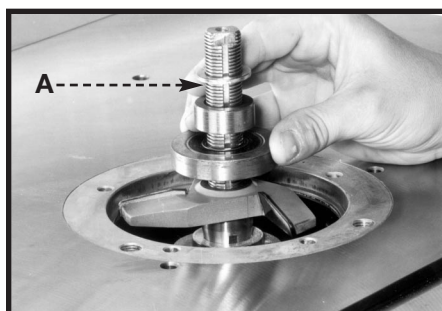

Fig. 12
1. Two 1-1/4" I.D. washers are supplied with the 6-1/2" spindle guard. Place one of the washers (A) on the spindle (Fig.12).